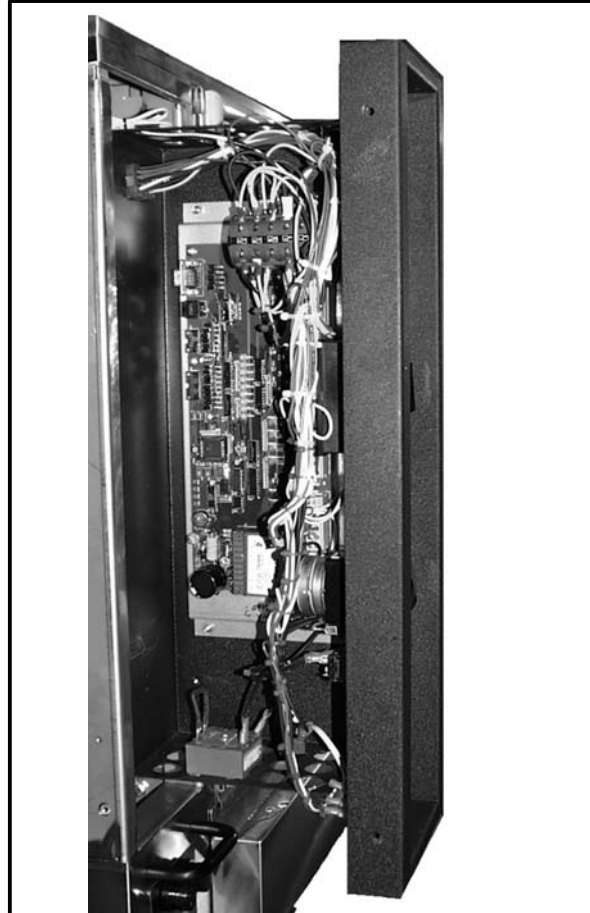

Figure 33
2. Remove (2) screws and slide the control panel forward. See Figure 33.